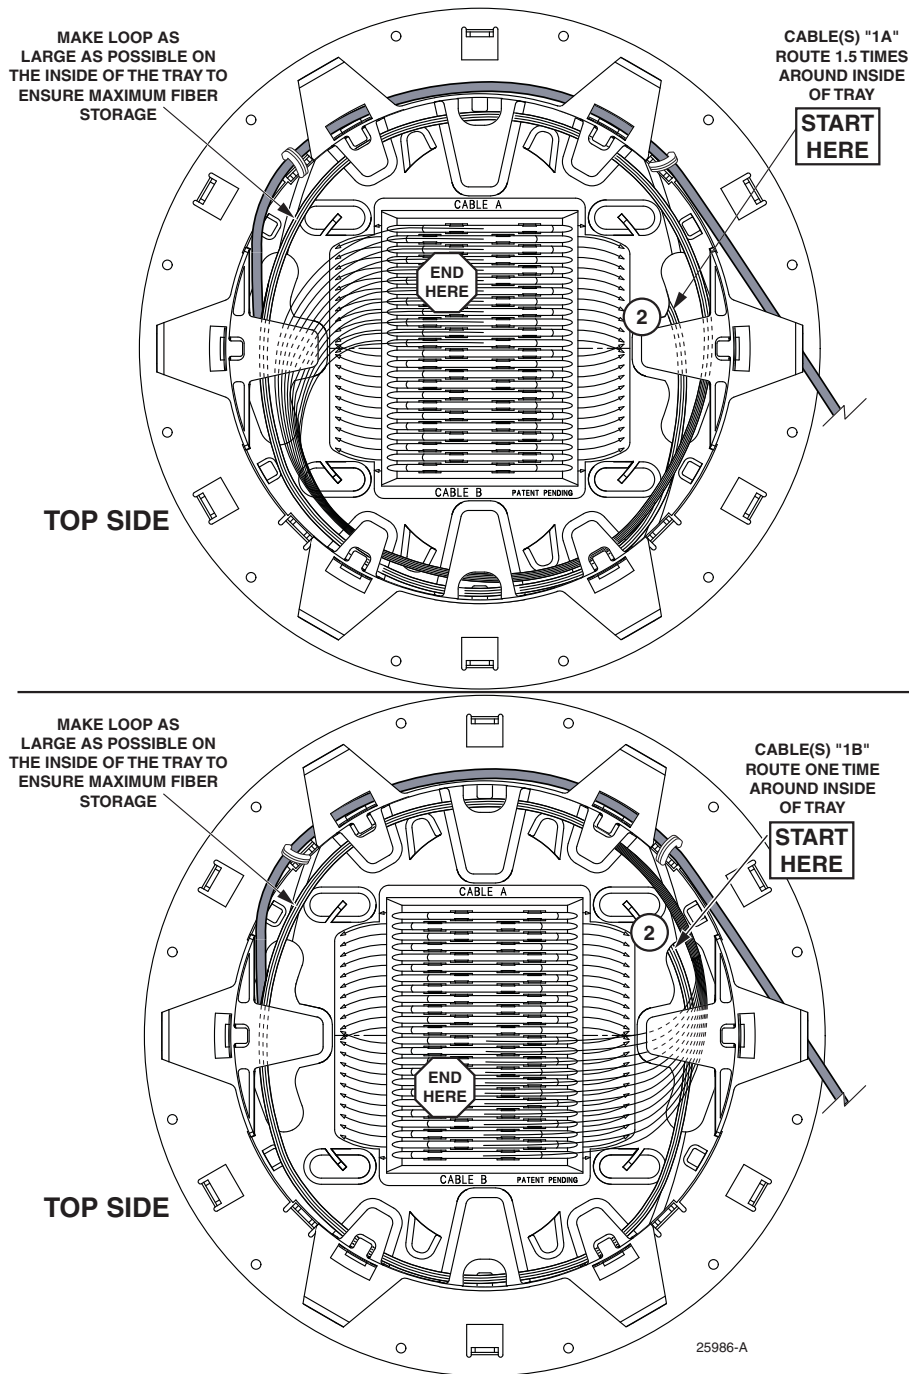

Figure 19. Cable(s) “1A” (Upper View) and Cable(s) “1B” (Lower View) Counter-Clockwise Roll-Up, continued
- Flip the tray over to the top side and route cable(s) “1A” (upper view) and cable(s) “1B” (lower view) to the splice tray area, as shown in Figure 19. Route cable(s) “1A” 1.5 times (cable(s) “1B” one time) around the inside of the tray making the loop as large as possible to ensure maximum fiber storage.